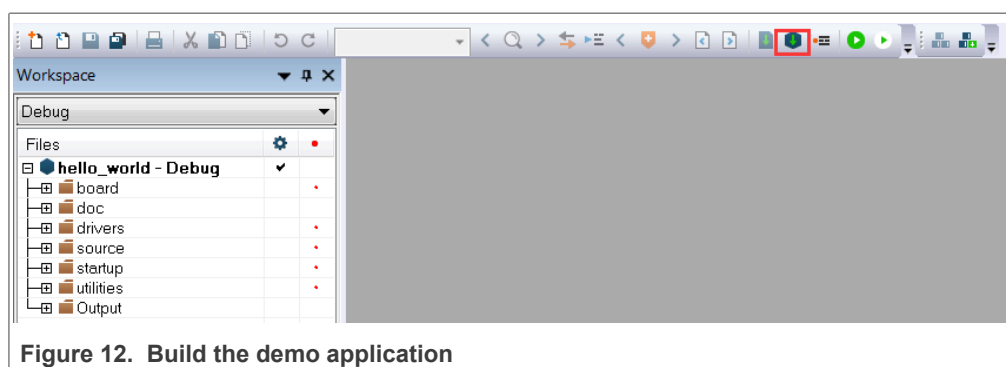

Figure 12. Build the demo application
3. To build the demo application, click **Make**, highlighted in red in Figure 12.